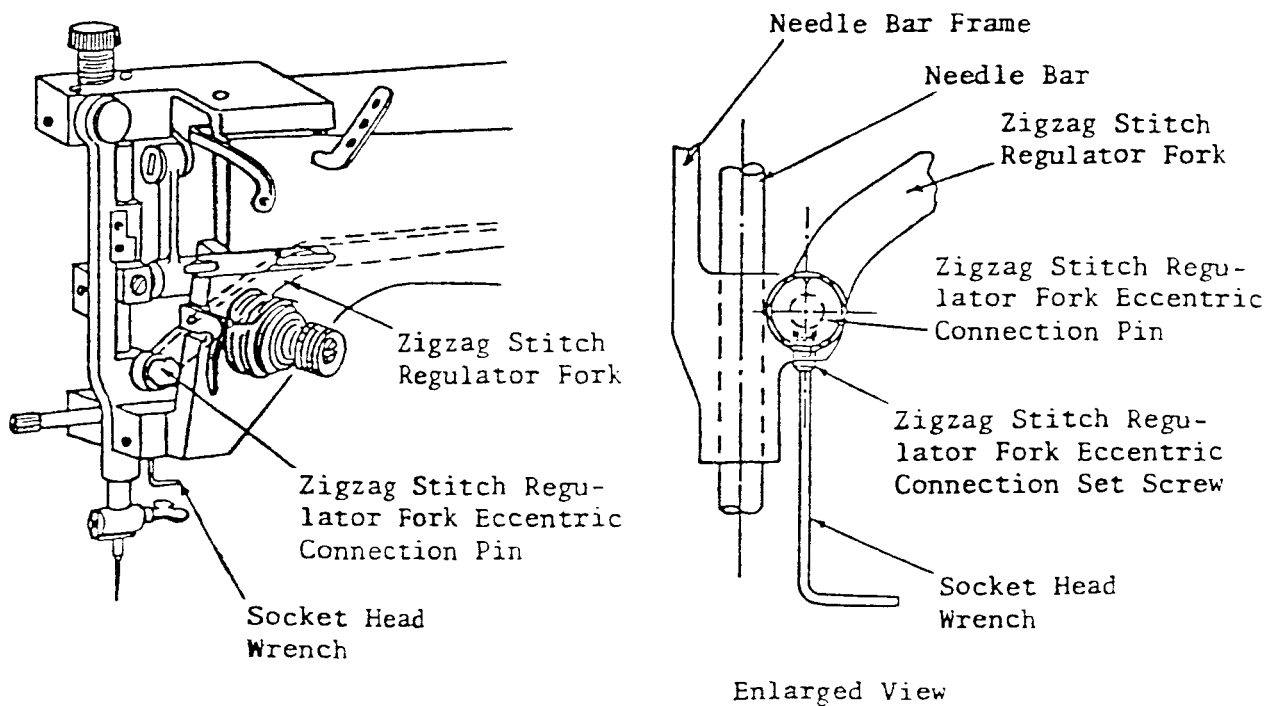

Fig. 15
7. If needle is not properly centered in the needle hole, check whether the notch on the hexagon head of the zigzag stitch regulator fork eccentric connection pin (Fig. 15) is located at top, then loosen bight and needle position block set screw and adjust bight and needle position block to the left or right as required. Securely tighten the set screw.
8. Turn machine pulley and check existence of sidewise movement of needle. If it is found necessary to make readjustment, it should be made as instructed in item 5, page 8.
3. If the needle location in relation to the needle hole in throat plate need to be adjusted, loosen zigzag stitch regulator fork eccentric connection pin set screw (Fig. 15) and turn zigzag stitch regulator fork eccentric connection pin, as required, to obtain correct needle location.